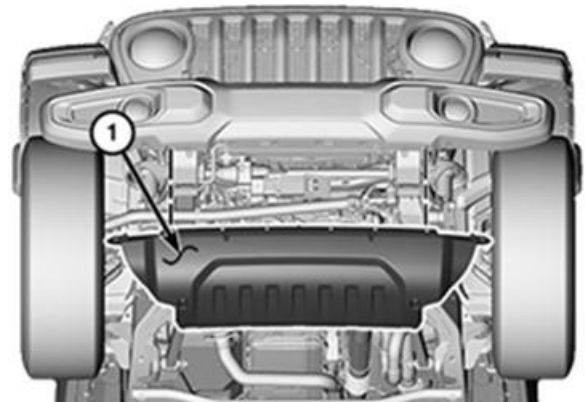

Figure 16 – Air Dam
5. Remove the air dam (1) (Figure 16).